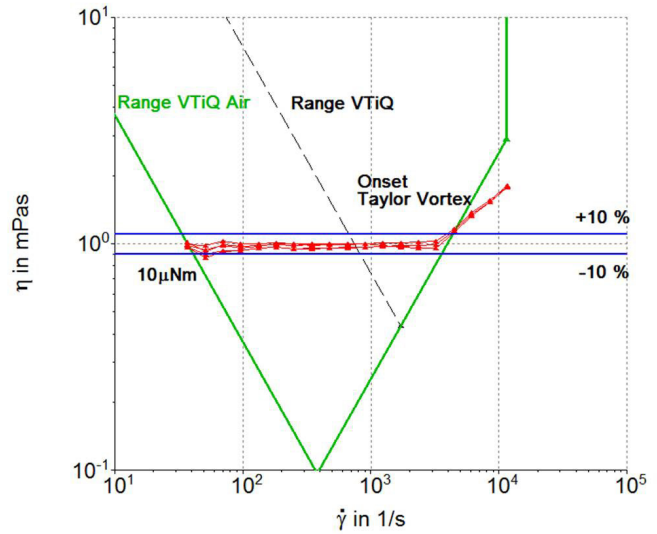
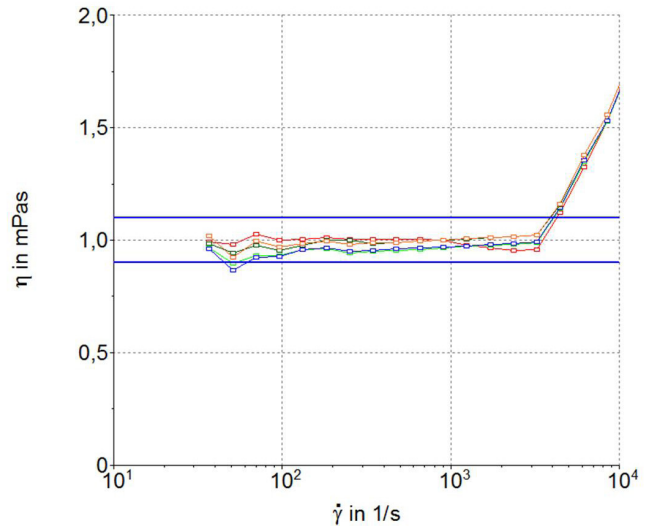

Figure 3: Viscosity as a function of shear rate for water at 20 °C on the HAAKE Viscotester iQ Air Rheometer. The data is plotted on a logarithmic scale.
Figure 5: Viscosity as a function of shear rate for water at 20 °C on the HAAKE Viscotester iQ rheometer. The data are plotted on a linear scale.
As can be seen in Figure 3 the results of the viscosity measurements are extremely reproducible starting from a torque of 10 μNm . The measured values are within a 10 % tolerance as indicated by the blue lines. Comparing the accessible shear rate range to that of a standard HAAKE Viscotester iQ Rheometer with a mechanical ball-bearing, one can see that the air-bearred model adds more than one order of magnitude into the low-shear regime. Of course the accessible shear rate range is still limited, however water can be tested with the HAAKE Viscotester iQ Air Rheometer over roughly 2 orders of magnitude from approx. 30 to 3000 s^{-1} . Below 30 s^{-1} the torque reading is below specification, above 3000 s^{-1} an increase of viscosity can be monitored due to the onset of Taylor vortices (1). This onset arises exactly where it was predicted by the RheoWin Range Calculator as can be seen in Figure 4.
To further emphasize the quality and reproducibility of the data, Figure 5 shows the same results like in Figure 3 again, however this time plotted on a linear scale.
As can be seen in Figure 5 the HAAKE Viscotester iQ Air Rheometer is easily able to measure water with a large diameter double gap measuring geometry. Before onset of the Taylor instabilities, the viscosity data is within $\pm 10\%$ of the theoretical water viscosity of 1.00 mPas (cP) at 20 °C.